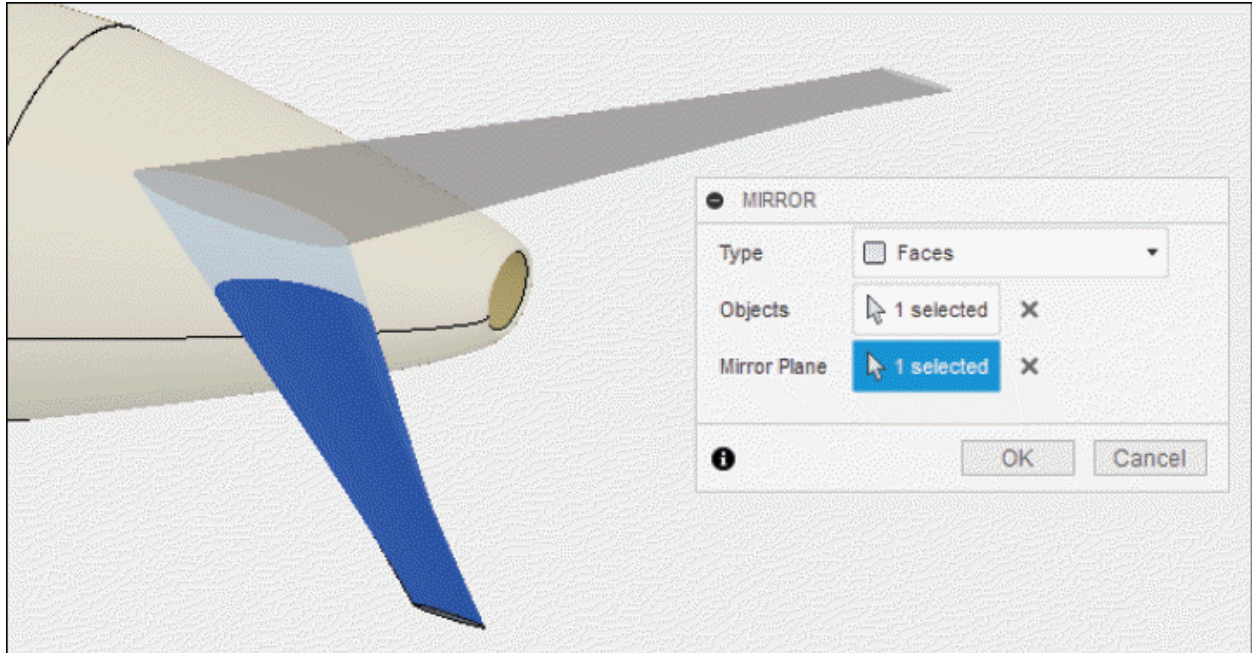

Figure-56. Creating other rear wing
- Click on **Select** button of **Mirror Plane** section of **MIRROR** dialog box and select the **XY** plane as reference; refer to Figure-56.